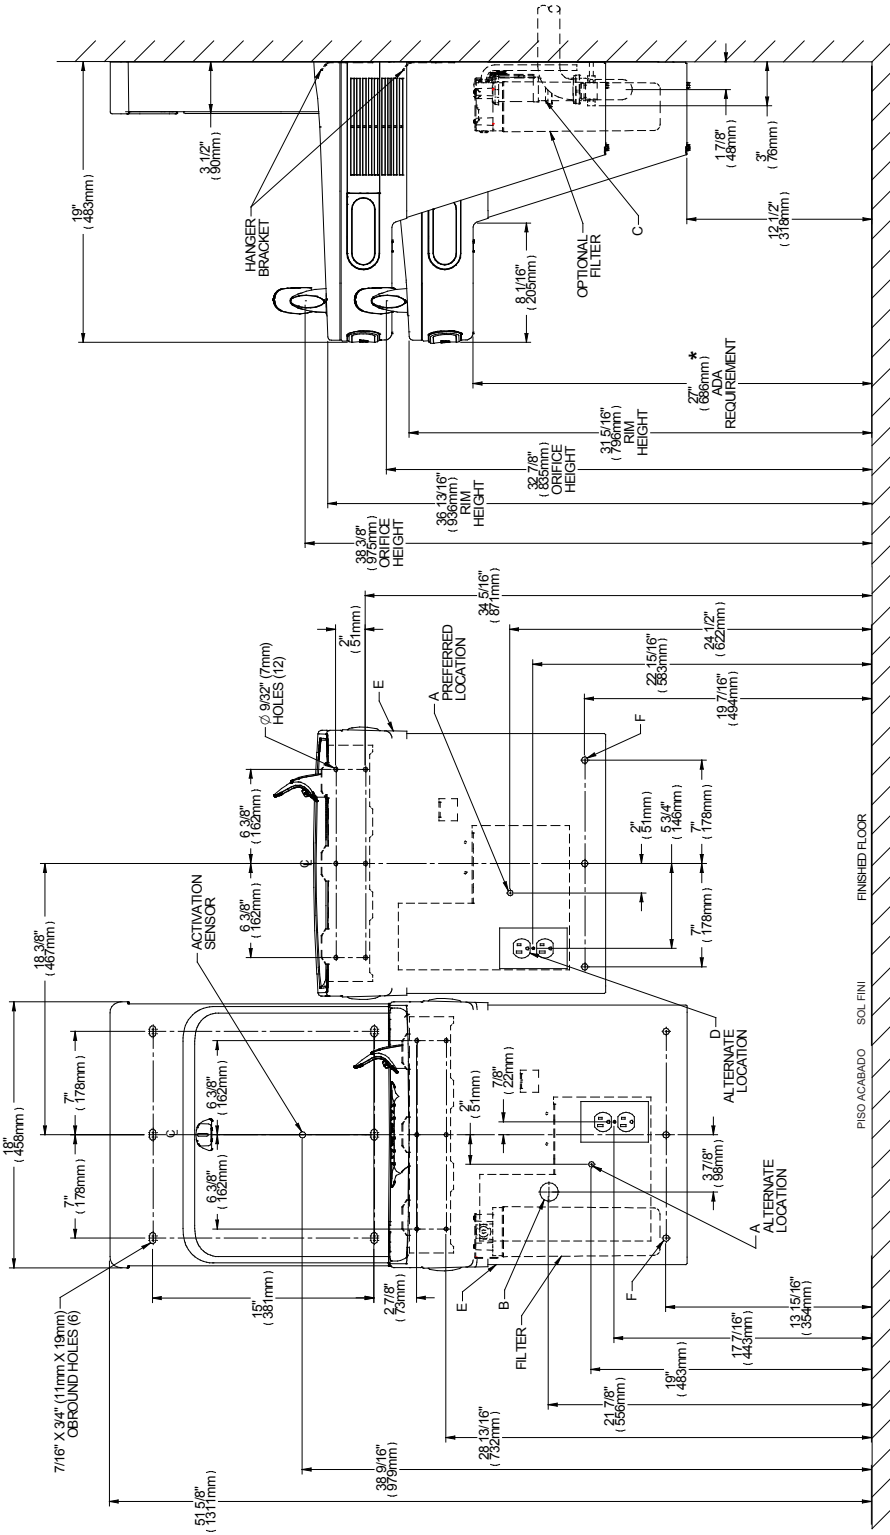

**FIG. 2**
- 1) Remove hanger bracket fastened to back of cooler by removing one (1) screw.
- 2) Mount the hanger bracket as shown in Figure 2,3,4,5.
**NOTE:** Hanger Bracket **MUST** be supported securely. Add fixture support carrier if wall will not provide adequate support. Anchor hanger securely to wall using all six (6) 1/4 in. dia. mounting holes.